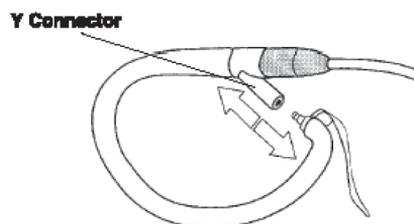

Fig. 4-7
2. Open the loop cover by grasping the loop cover “Y” connect in one hand, the release tab in the other, and pulling firmly until the loop cover unsnaps. (Fig. 4-7)